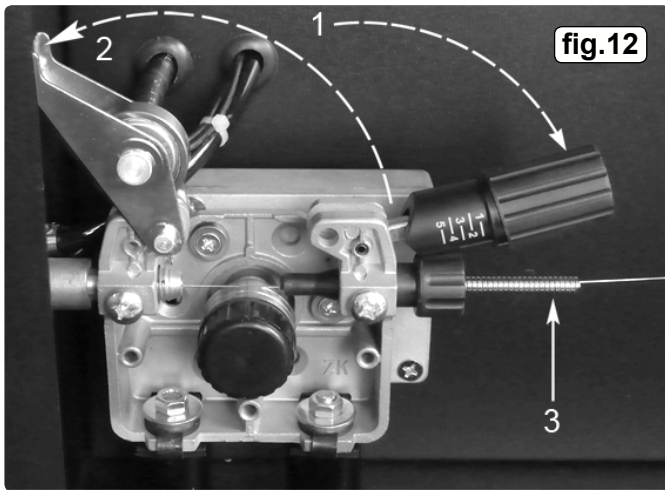

fig.12
- 3.9 FEED WIRE THROUGH TO TORCH.** Referring to fig.12 open the wire feed mechanism by pushing the locking/wire tension knob (1) down to the right allowing the pressure roller carrier (2) to spring up revealing the feed roller. Ensure that the required feed groove (0.6 or 0.8) is in line with the wire path. See Section 3.12 on how to reverse or change the roller.
- 3.12.1 Referring to fig.12, open the wire feed mechanism by pushing the locking/wire tension knob (1) down to the right allowing the pressure roller carrier (2) to spring up revealing the feed roller.
- GAS CUP** The gas cup must also be kept clean and free from spatter. Build up of spatter inside the gas cup can cause a short circuit at the contact tip which will result in either the fuse blowing on the printed circuit card, or expensive machine repairs. To keep the contact tip free from spatter, we recommend the use of Sealey anti-spatter spray (MIG/722308) available from your Sealey Dealer. Refer to fig.12 and section 3.9 for removal and replacement.